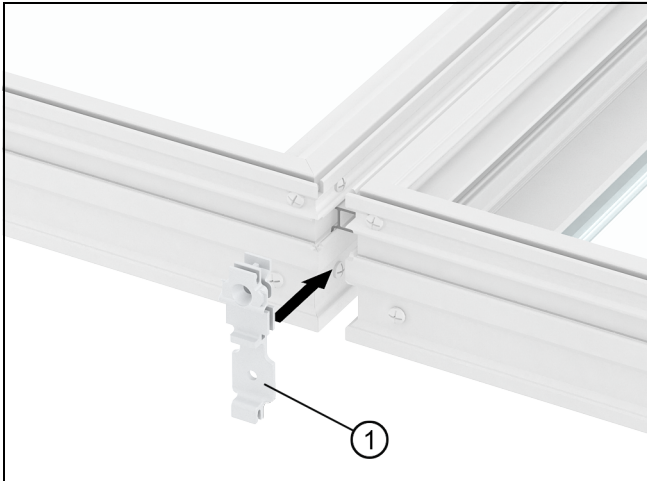

Figure 4
2. Insert the mull plugs with the injection hole oriented toward the exterior. See Figure 4.